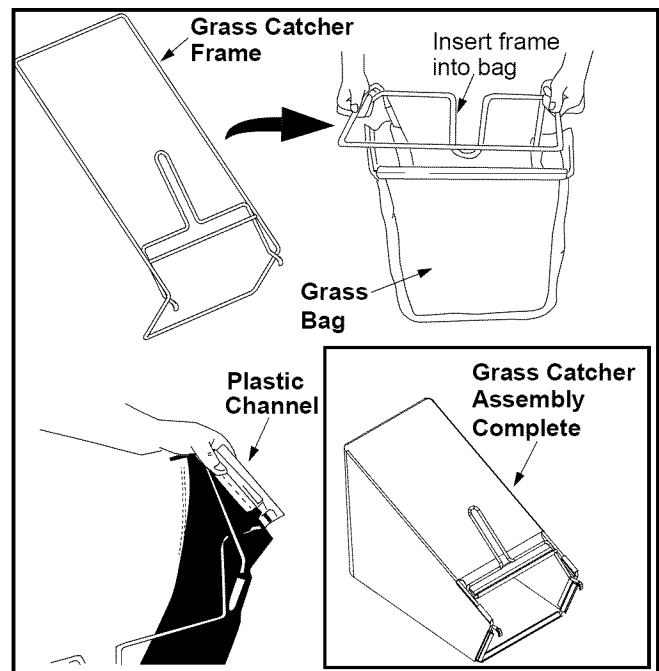

Figure 9
1. Insert frame into grass bag with the black plastic side on the bottom of bag. See Figure 9.
IMPORTANT: Entire channel except the center top of the bag attach from outside of bag. The center top of the bag attaches from inside of bag. See Figure 9.